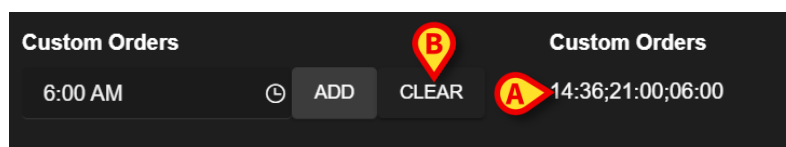

Fig 37
To schedule additional custom orders, repeat the same procedure. All the scheduled activities are listed together. See for example Fig 37 A.
- Click the **Clear** button (Fig 37 B).